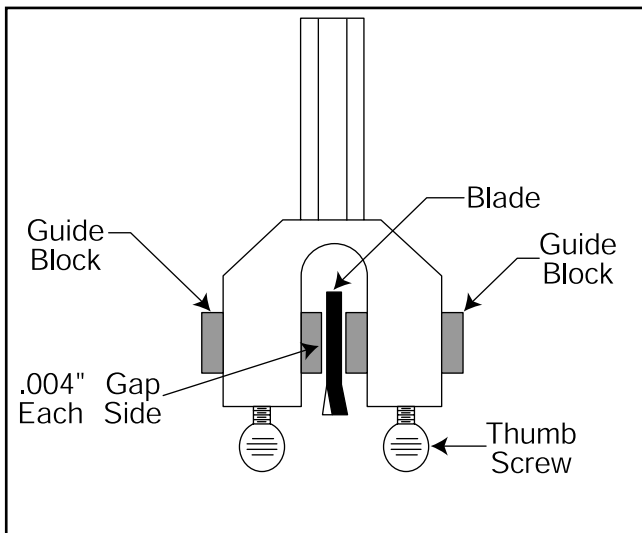

Figure 19. Guide block location of controls.
1. Loosen the thumbscrew securing the guide block shaft shown in **Figure 19**.
3. Loosen the guide block thumbscrews and adjust the gap between the blocks and the blade to .004" (about the same thickness as a dollar bill). See **Figure 19**.